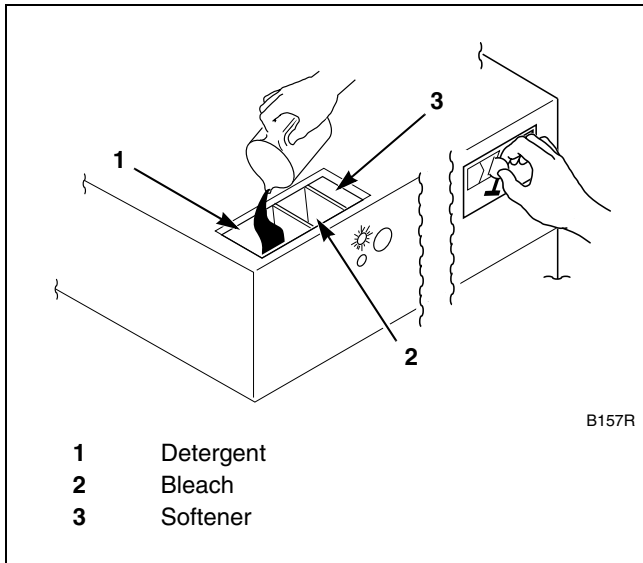

Figure 11
7. Add liquid and/or powder supplies to supply dispenser. Refer to *Figure 11*.
8. Add coins to machine. As each coin is added, the vend counts down to the amount remaining. Refer to *Figure 11*.